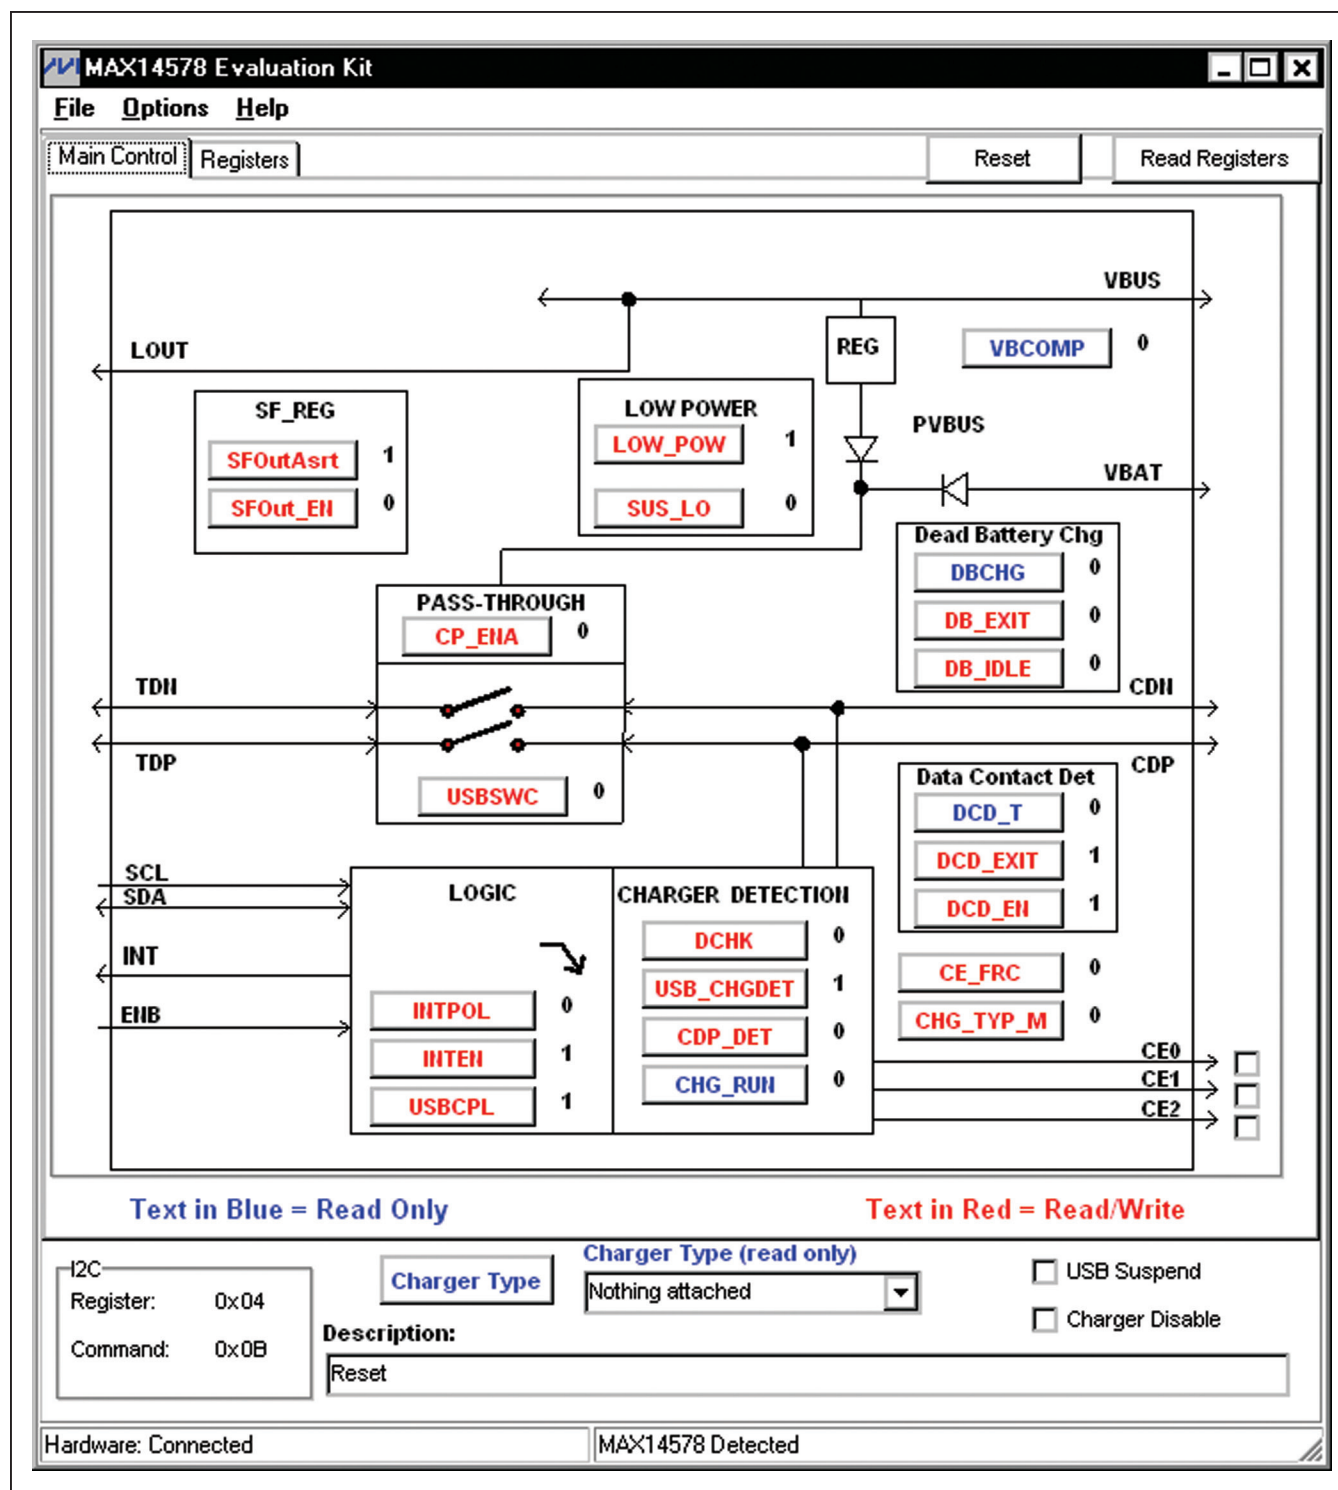
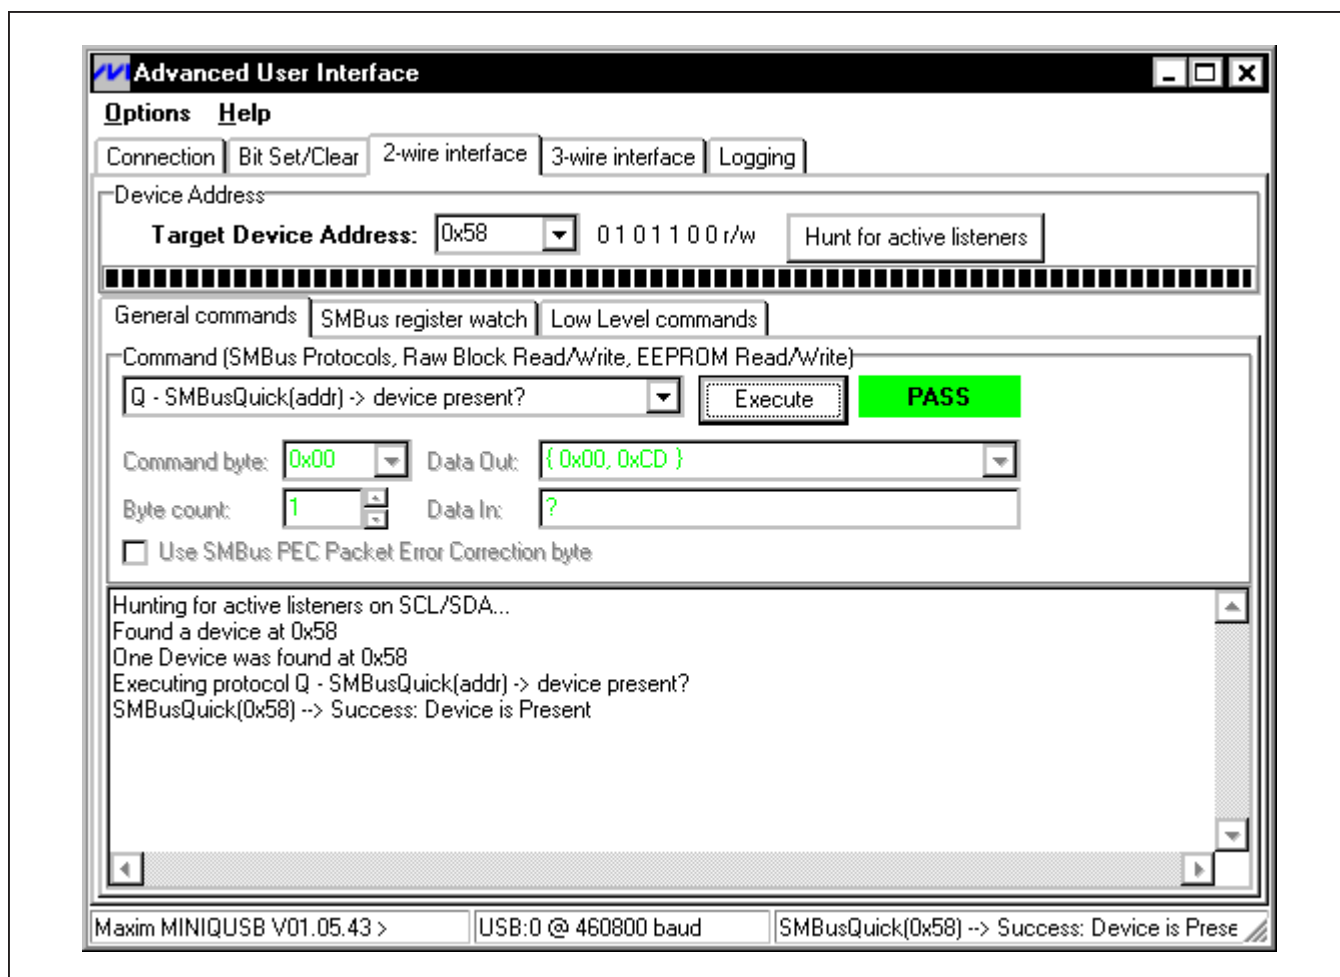

Figure 1. MAX14578 EV Kit Software (Main Control Tab)
Figure 3. Advanced User Interface Window (2-Wire Interface Tab)
- 5) Start the EV kit software by opening its icon in the **Start | Programs** menu. The EV kit software main window appears, as shown in Figure 1. The EV kit GUI indicates if the USB hardware is connected in the lower-left status bar and whether the device was detected in the lower-right status bar.
The main window of the MAX14578 EV kit is shown in Figure 1.
The **Main Control** tab sheet (Figure 1) visually displays different bit settings. The functions are grouped by group boxes. Pressing a button toggles the bit and a short description is displayed in the **Description** edit box. To get the latest register settings, press the **Read Registers** button located in the top-right corner of the GUI. Some actions such as performing charger detection are automated by the device. When **INTEN** is **1**, the GUI automatically detects charger detection based on the interrupt line. The types of chargers the device can detect are located in the **Charger Type (read only)** drop-down list. This drop-down list is for reference as to what is detectable by the device and clicking on a different setting performs a read command and the detected charger is displayed in the drop-down list. When a button is pressed, a read/write action is performed, the **I2C** group box displays the data, and a short description of the action is displayed in the **Description** edit box. The device is always reset at startup to default values. The default values are the same as in the MAX14578/MAX14578A IC data sheet except for **INTEN**, which is set to 1 by the software.
There are two methods for communicating with the device. The first is through the windows shown in Figures 1 and 2. The second is through the **Advanced User Interface** window shown in Figure 3. The **Advanced User Interface** window becomes available when selecting the **Options | Interface (Advanced User)** menu item and allows execution of serial commands manually.